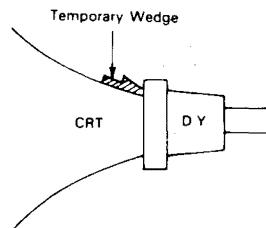

FIGURE 5
4. Move the two Purity Magnets and bring the Magenta belt to the mechanical center of the screen (See Fig. 5)
10. Insert the temporary wedge as shown in Fig. 5 and adjust the angle of Deflection Yoke.